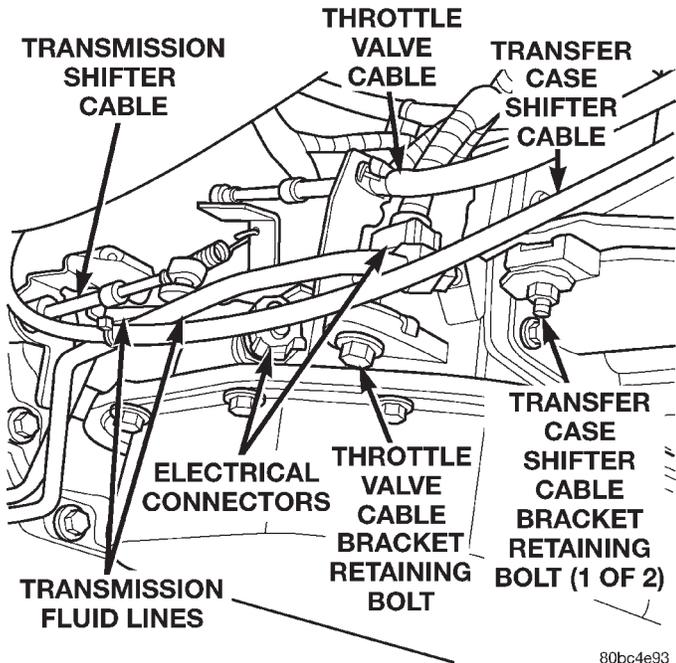

Fig. 19 Transmission Control Cables & Fluid Lines
(23) Remove the transfer case shift cable bracket from the transmission housing (Fig. 19).
(24) Disconnect the throttle valve cable at the ball and socket connection by gently pulling straight apart (Fig. 19).
(25) Remove the throttle valve cable bracket retaining fasteners and position the cable assembly out of the way (Fig. 19).
(26) Remove the spring from the shift lever arm (Fig. 19).
(27) Disconnect the shifter cable at the ball and socket connection by gently pulling straight apart (Fig. 19).
(28) Remove the shifter cable bracket retaining bolt from the transmission housing (Fig. 19).
(29) Remove the transmission fluid cooler lines from the transmission (Fig. 19).
(30) Disconnect all the transmission electrical connectors and unclip the wire harness from the transmission housing (Fig. 19).